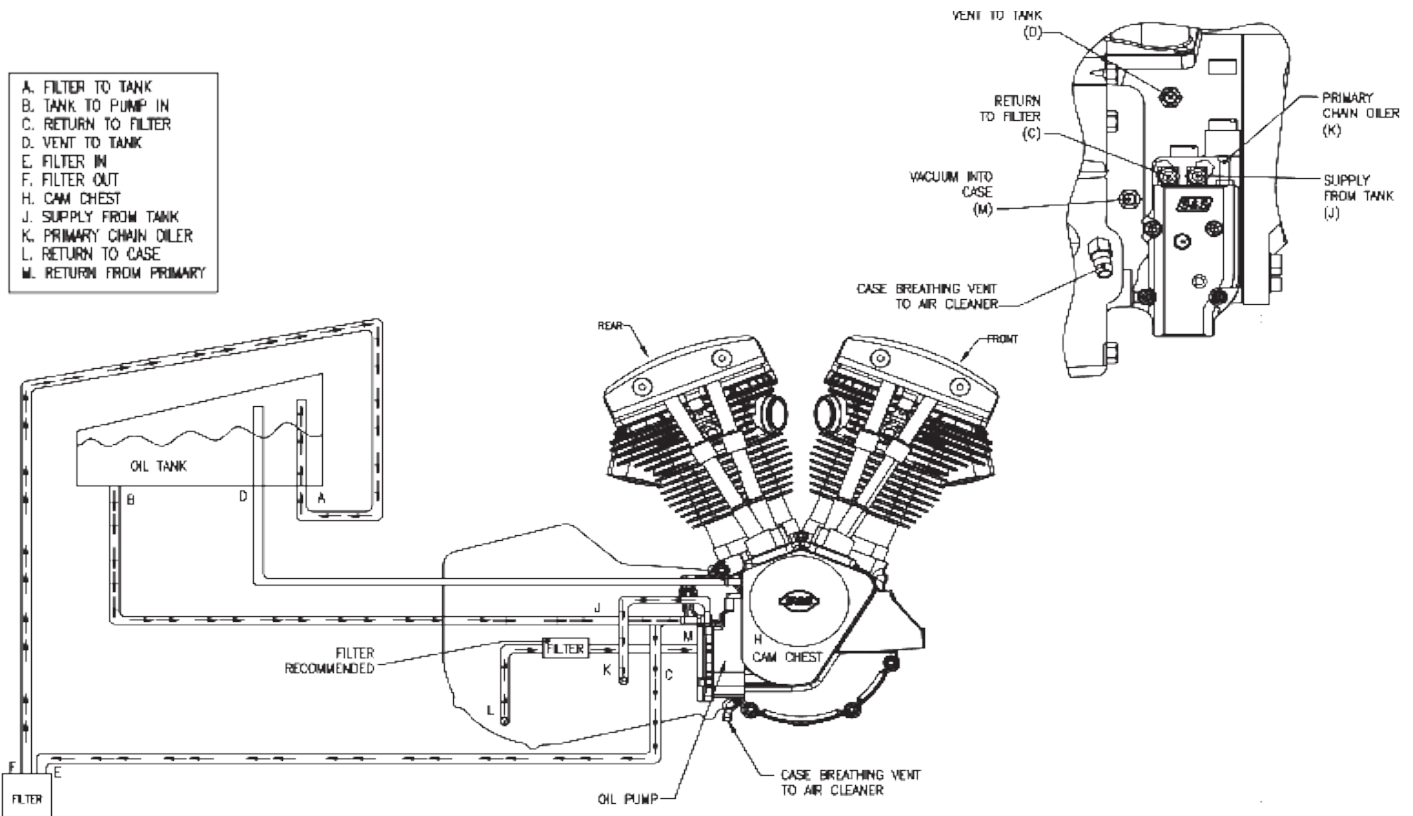

Figure 1
Most big twin oiling systems utilize three oil circuits: supply, return, and breather/vent. 1965-1984 models often utilize a fourth circuit for primary chain oiling. See **Figure 1** below. Oil line hook up for 1985-'99 engines will be similar except that no primary chain oil supply or return will be present since these models had sealed primaries.
6. Breather or vent circuit equalizes pressure between oil tank and crankcase. See preceding paragraph for location of vent fitting in oil tank. Vent line runs from vent fitting on oil tank to Hole D in crankcase. **See Figure 1, below.**